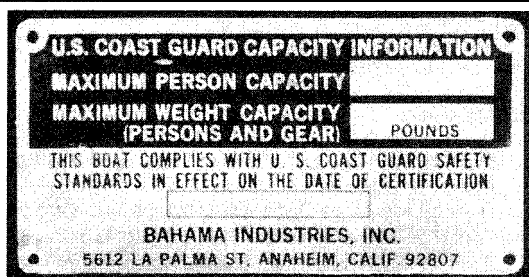

Fig. 4 A U.S. Coast Guard certification plate indicates the amount of occupants and gear appropriate for safe operation of the vessel
#### ◆ See Figure 4
- ◆ See Figure 4